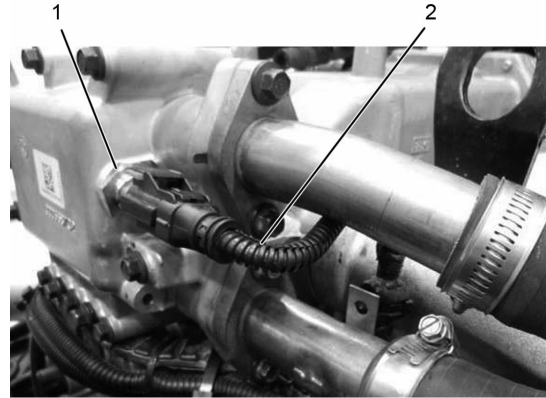

Figure 14
20. Disconnect EGR temperature sensor harness (Figure 14, Item 2) from EGR temperature sensor (Figure 14, Item 1).
21. Remove EGR temperature sensor (Figure 14, Item 1) from sensor port.